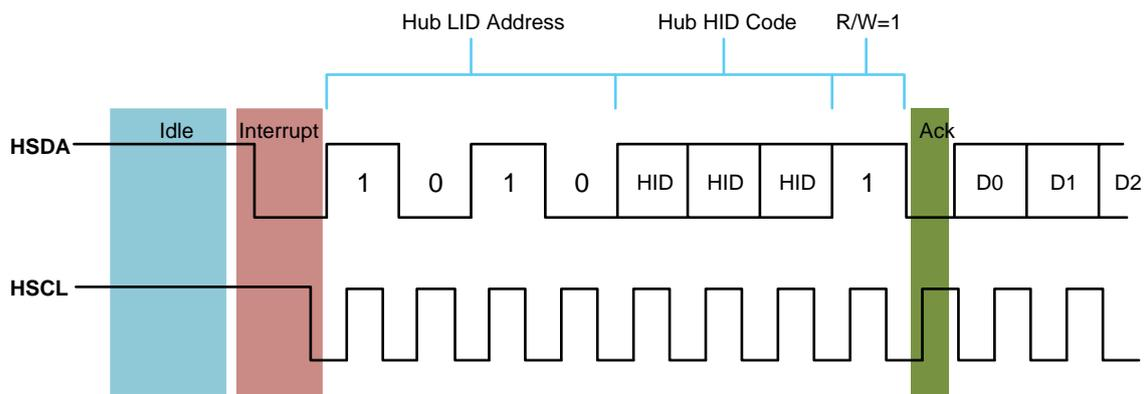

Figure 13. SPD5 Hub Interrupt; Host Ack Followed by SPD5 Hub Device IBI Payload
- The Host sends ACK on 9th bit to accept the interrupt request. At this point, if the SPD5 Hub confirms that it has won the arbitration, the SPD5 Hub device transmits the IBI payload as shown in Table 75 and Table 76 for PEC disabled and PEC enabled configuration, respectively. See Figure 13. It just shows only first two data bits of the MDB byte to illustrate the timing. The interrupt payload contains MDB followed by 8-bit register contents of MR51 and MR52 in order. The Host then issues the STOP command. Note the timing waveform in Figure 13. The Host then accepts the IBI payload if it sends an ACK on 9th bit to accept the interrupt request. The Host can interrupt the IBI payload at 'T'. If Host stops the IBI payload at 'T' bit in the middle of payload, the SPD5 Hub device retains the IBI status flag [MR48\[7\]](#) = '1' and Pending Interrupt Bits [3:0] internally and waits for the next opportunity to request an interrupt. If the SPD5 Hub device successfully transmits the entire